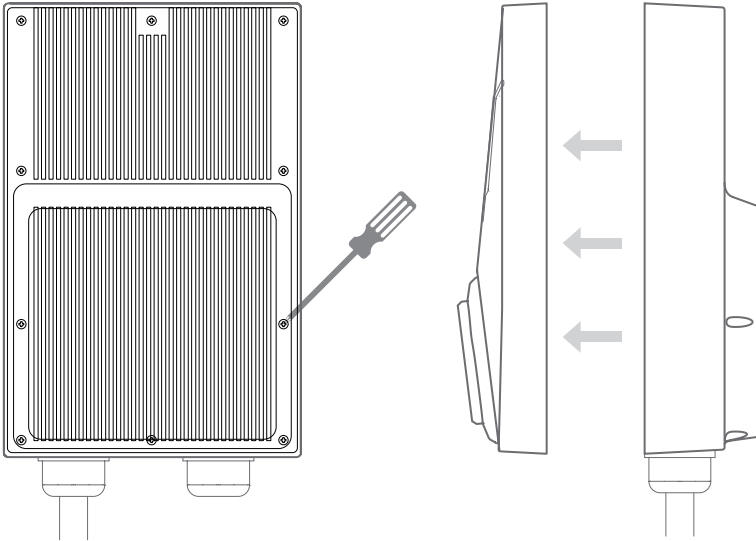

Fig. 5-3
2. Use a Phillips screwdriver to unscrew all the 10 screws on the back cover, and then remove the front cover. (See Fig. 5-3)